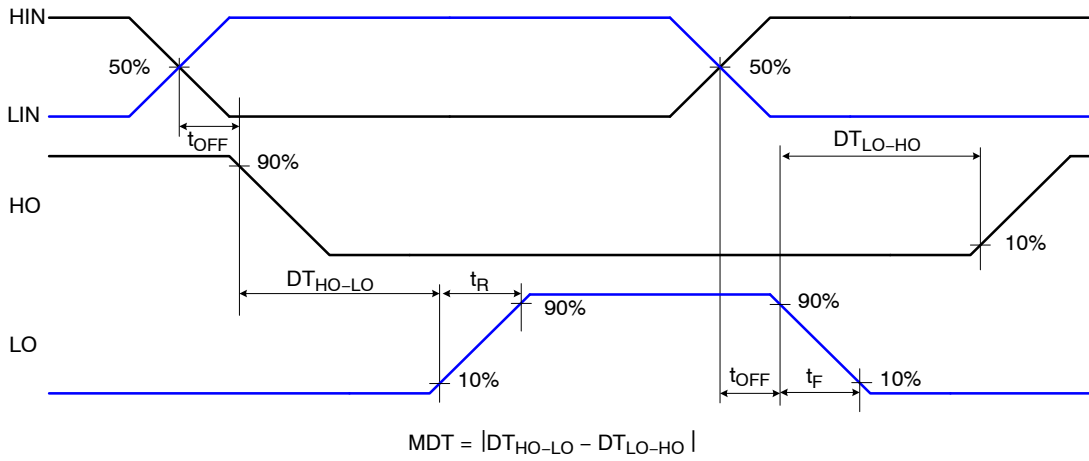

Figure 40. Internal Dead Time Definition
9. MDT is defined as $|DT_{HO_LO} - DT_{LO_HO}|$ referenced to Figure 40.